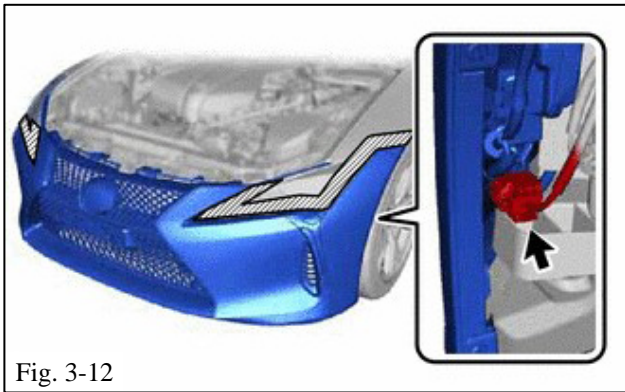

Fig. 3-12
- (o) Reach in behind the fender lining to disconnect the connector of the front turn signal lamp assembly (Fig. 3-12).